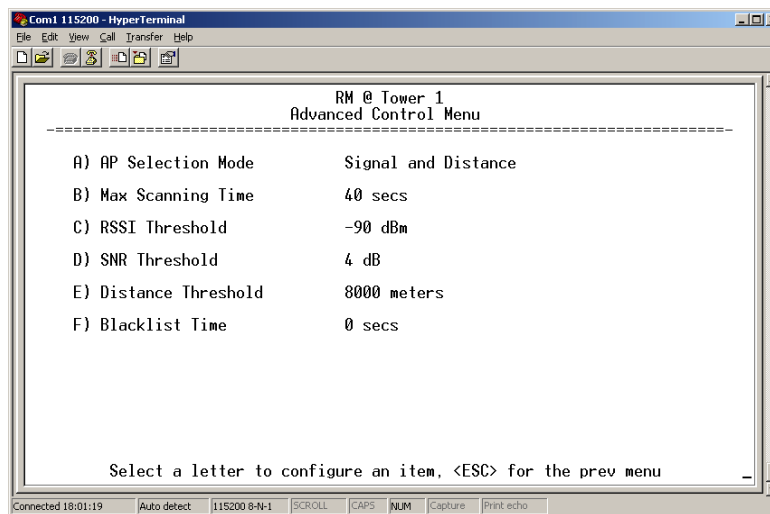

Figure 3-40. Advanced Control Menu
- **Advanced Control** (Remote only)—Brings up a submenu (see Figure 3-40) where additional communication parameters may be set.